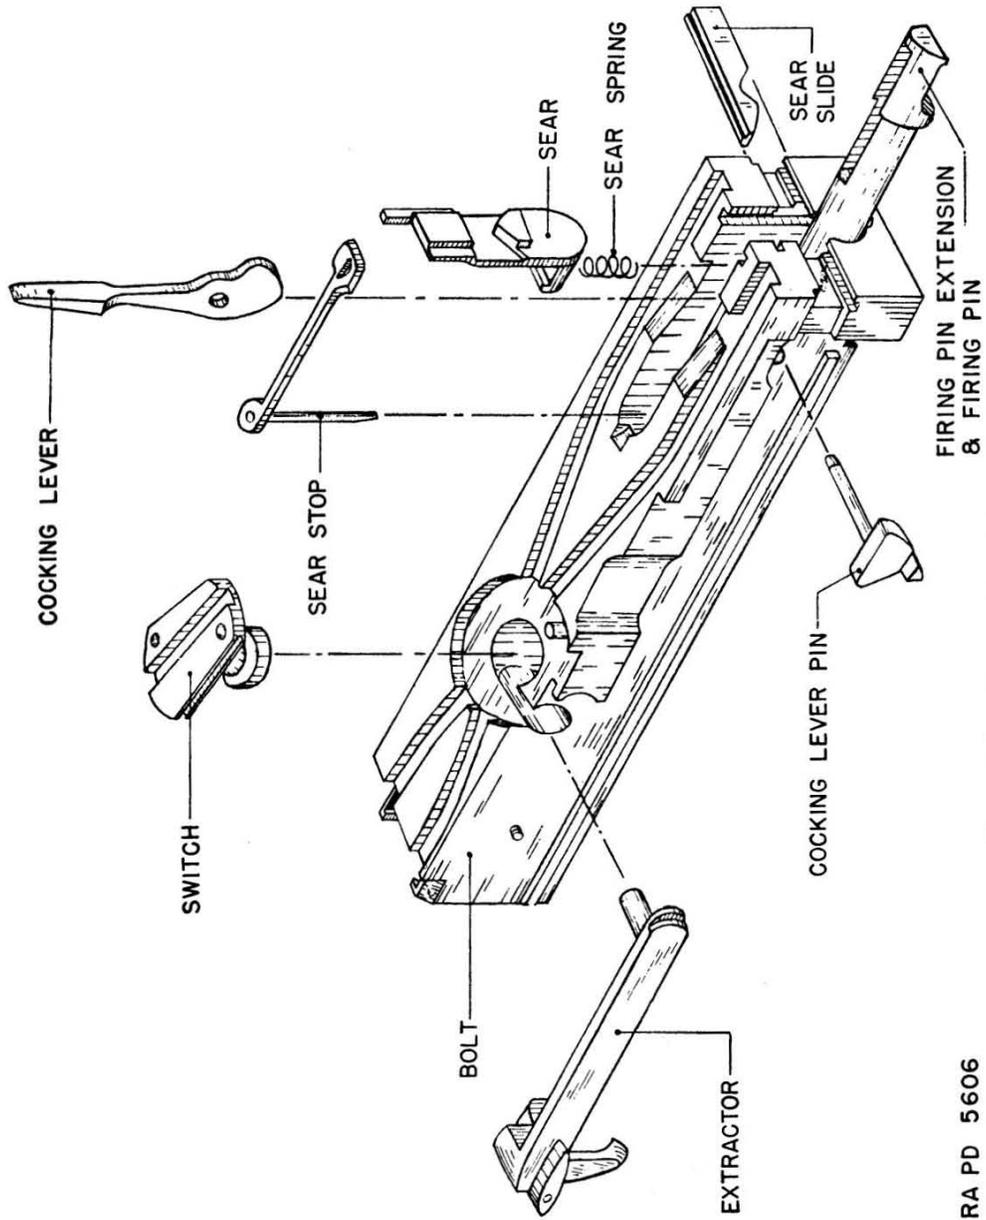
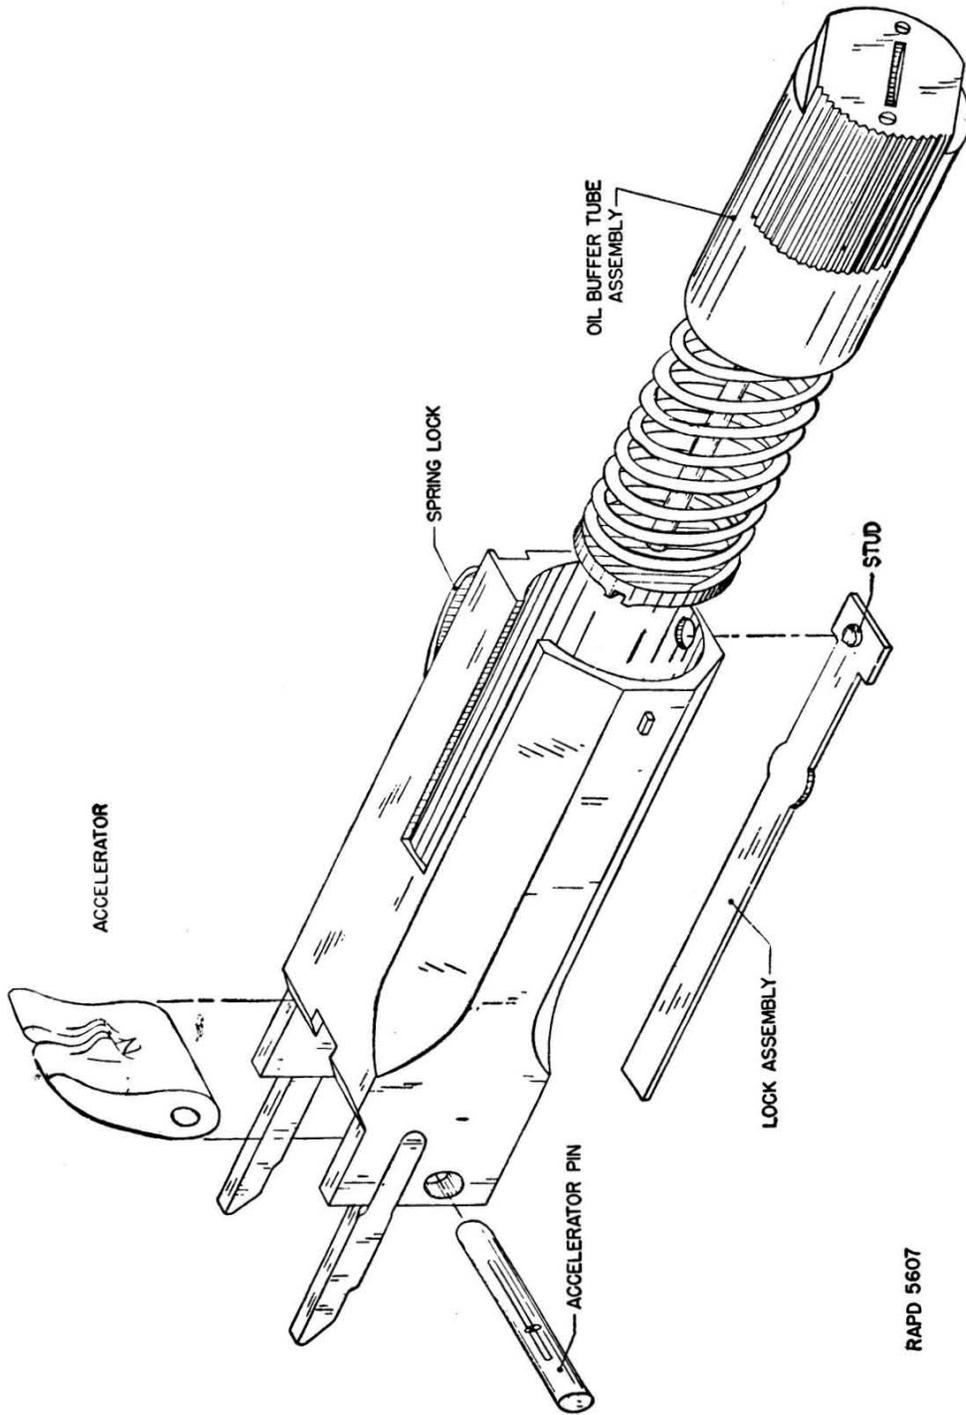
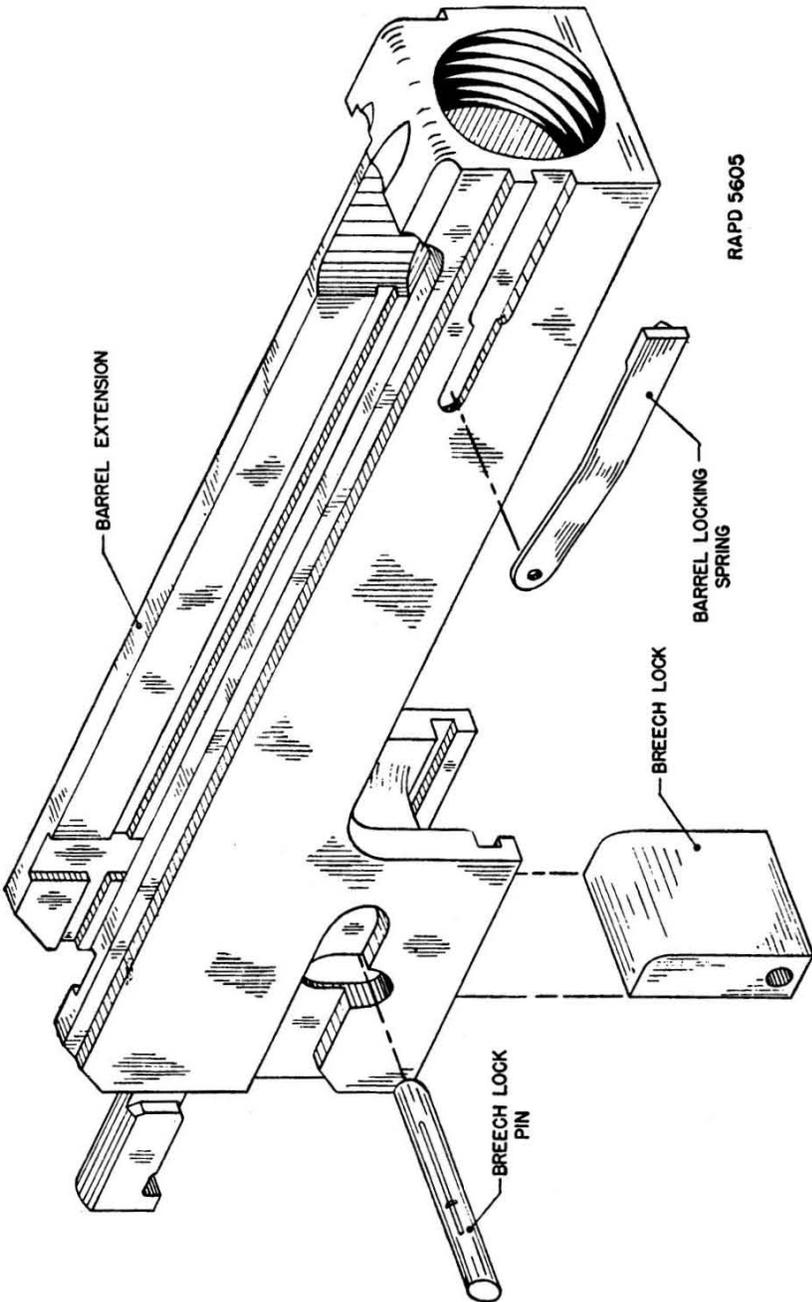
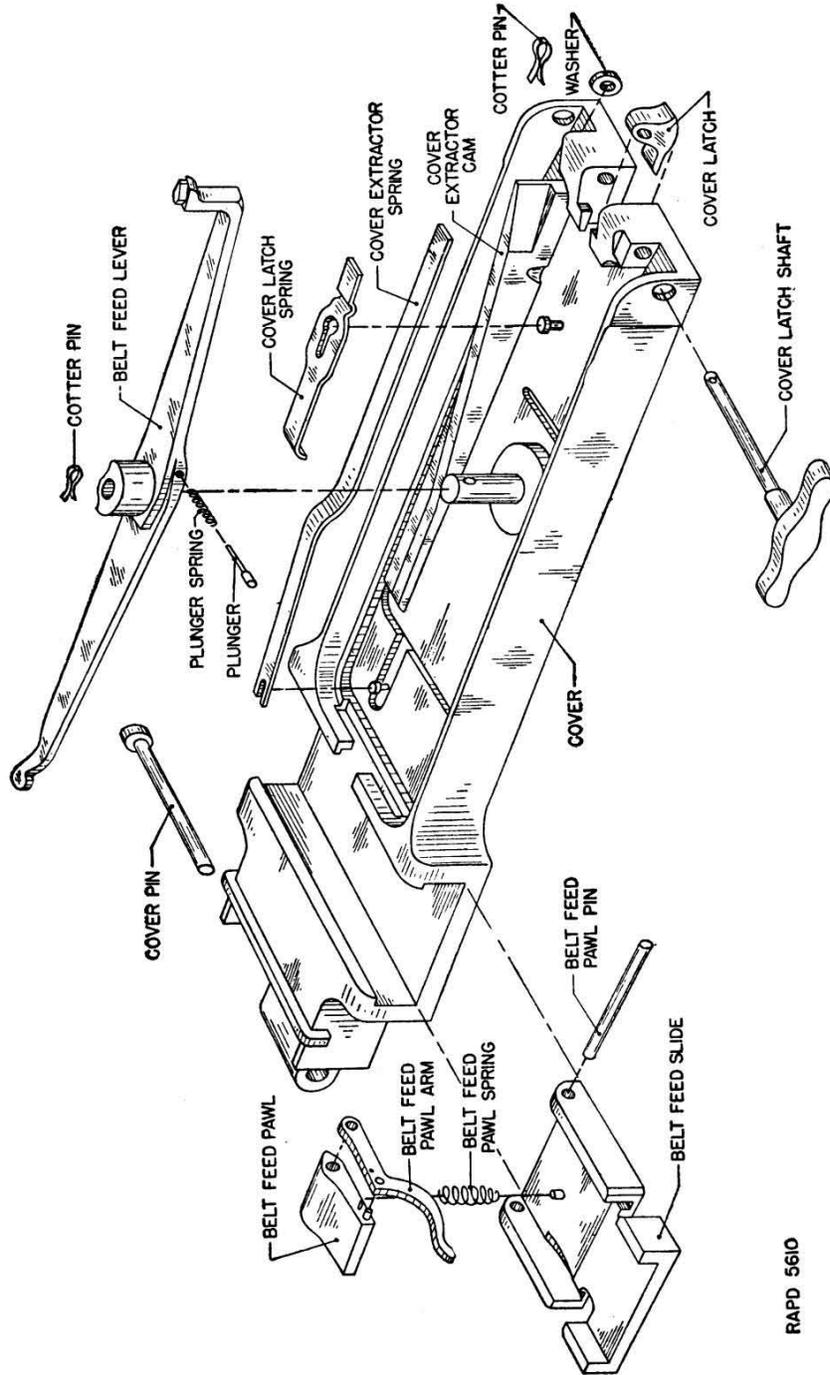

FIGURE 6.—Disassembly of bolt group.
FIGURE 7.—Disassembly of oil buffer group.
FIGURE 8.—Exploded view of barrel extension.
FIGURE 9.—Disassembly of cover group.
**10. Detailed disassembling.**—*a. Bolt group* (fig. 6).—(1) Remove bolt group from gun.
*b. Oil buffer group* (fig. 7).—(1) Remove oil buffer, barrel extension, and barrel assembly from gun. Detach oil buffer from barrel extension by pressing accelerator forward.
(2) Remove oil buffer body spring lock by pulling it to the rear.
(3) Hold oil buffer body bottom up in the left hand, with the index finger between depressors and prongs of accelerator. With the point of a cartridge, press stud on end of oil buffer tube lock assembly to disengage it from its hole in oil buffer tube body. At the same time, raise accelerator upward and rotate to the rear. Remove oil buffer tube lock assembly.
(4) Drive out accelerator pin and remove accelerator.
(5) The oil buffer tube assembly should not be disassembled unless absolutely necessary to replace the oil buffer spring. To disassemble, depress oil buffer spring guide sufficiently to clear oil buffer piston rod pin; turn oil buffer spring guide until oil buffer piston rod pin will pass through slots in the guide. Remove guide and spring.
*c. Barrel group*.—(1) Remove barrel by unscrewing from barrel extension (fig. 8).
(2) Remove barrel locking spring by sliding it forward out of its seat in barrel extension. It may be necessary to drive it out, using point of shell inserted in small hole near rear of locking spring.
(3) Push out breech lock pin and remove breech lock.
(4) The barrel sleeve is permanently assembled to the barrel and should not be removed.
*d. Cover group* (fig. 9).—(1) Remove cover pin cotter pin. Drive out cover pin and lift cover free from trunnion block.
(2) Remove belt feed lever pivot stud cotter pin and pry belt feed lever off its pivot stud, taking care while doing so that belt feed lever plunger and spring do not fly out. In removing belt feed lever, see that toe of lever is in line with slot in cover, otherwise it will not pass out.
(3) Remove belt feed lever plunger and belt feed lever plunger spring from belt feed lever.
(4) Remove belt feed slide, complete, from its guides in the cover.
(5) Push out belt feed pawl pin, which will enable belt feed pawl, belt feed pawl spring, and belt feed pawl arm to be separated.
(6) Remove cover latch spring by lifting its front end out of slot in cover and sliding it forward.
(7) Remove cover extractor spring by releasing its rear end from its seat in cover extractor cam and sliding to the rear.
c. *Cover group* (fig. 9).—(1) Insert cover latch shaft assembly in the hole in cover and replace cotter pin.
(2) Place forked end of cover extractor spring over stud in cover and engage the other end of spring in the slot in cover extractor cam.
(3) Place cover latch spring over stud in cover and slide forward, making certain that the rear end rests on cover latch.
(4) Hold belt feed pawl with recess for belt feed pawl spring up and studs to the right. Place belt feed arm over studs on belt feed pawl, with belt feed arm pointing to the right and holes in belt feed pawl and arm in alinement. Place belt feed pawl spring in its seat in the pawl with large end of spring in belt feed pawl recess, and position belt feed pawl in belt feed slide. Insert belt feed pawl pin. Insert belt feed slide, complete, in its guides in cover, making certain that belt feed pawl arm is to the rear.
(5) Place belt feed lever plunger and spring in rear hole of belt feed lever. Insert toe of belt feed lever through slot in cover and engaging belt feed slide. Position belt feed lever so that it goes over the stud in the cover, and at the same time compress belt feed lever plunger and spring so that they clear the side of the cover. Insert cotter pin in stud.
(6) Place cover assembly on trunnion block and insert cover pin. Insert cotter pin in cover pin.
*d. Barrel group* (fig. 8).—(1) Insert breech lock in its guides in barrel extension, making certain that bevel faces of breech lock are to the front with double bevel on the top. Insert breech lock pin, taking care that both ends of pin are flush with the sides of barrel extension.
(2) Replace barrel locking spring by sliding it into its seat in barrel extension.
(3) Screw barrel into barrel extension.
*e. Oil buffer group* (fig. 7).—(1) If the oil buffer tube has been disassembled, place oil buffer spring over oil buffer piston rod. Position oil buffer spring guide so that the slot in the guide is in line with pin on oil buffer piston rod. Press down on oil buffer piston guide so that oil buffer piston rod pin passes through the slot in the guide, and rotate guide until recesses in the guide are alined with the pin in the rod. Allow pin to seat itself in the recesses.
(2) Insert oil buffer body spring lock in its groove in the body and push forward.
(3) Position oil buffer tube lock spring over slot in oil buffer body, with flanges of spring over enlarged cut in slot. Depress spring into cut and slide forward, raising stud end of spring up and over the end of oil buffer body to seat stud in hole in oil buffer body.
(4) Insert oil buffer tube assembly in oil buffer body and push forward as far as it will go. Place accelerator, with tips up and rounded surface to the front, between depressors on oil buffer body and insert accelerator pin, taking care that both ends of pin are flush with the sides of oil buffer body.